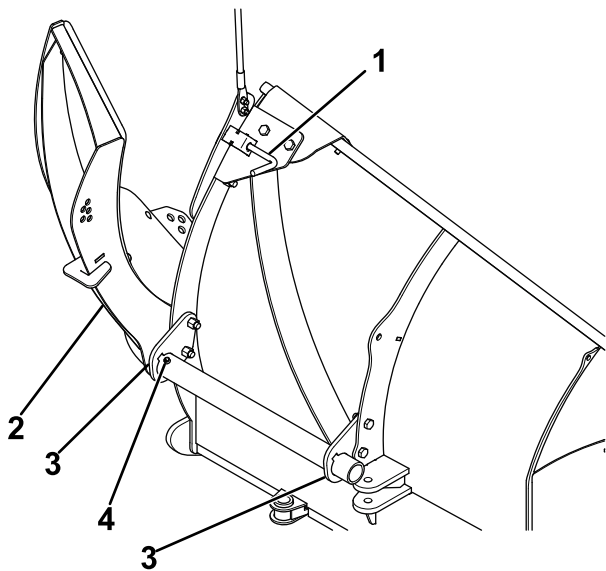

Figure 6
10. Pull back on the spring pin and rotate it into the lock position (Figure 6).
- Slide the plow wing tube through the rib brackets until the attach pin passes through the outer bracket (Figure 6).